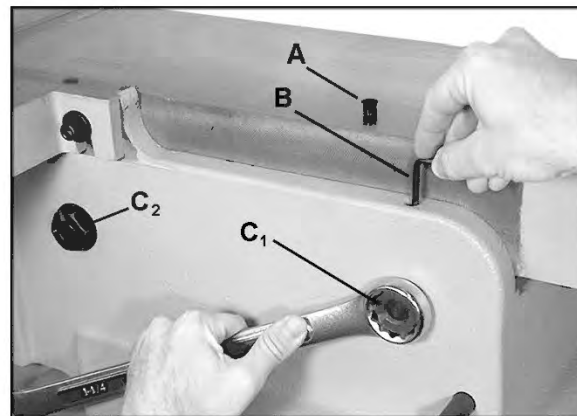

Figure 22
9. Each table has four cam adjustment devices, two in front and two in back. (C, Figure 22 shows one of these).
11. At the area of the table where the adjustment must be made, pry out the cap (A, Figure 22) from the hole.
12. There are two set screws in the hole. Insert a 4mm hex wrench (B, Figure 22) into the hole and loosen the upper set screw by turning the hex wrench counterclockwise. Remove the upper set screw from the hole.
14. Turn the hex nut (C₁, Figure 22) with a 1-1/4" wrench. **This adjustment is sensitive and should be made in small increments.**
NOTE: The rotation is different for left and right hex nuts; the right hex nut (C₁) being turned in Figure 22 will be turned clockwise to raise that area of the table, or counterclockwise to lower that area of the table. The left hex nut (C₂) shown in Figure 22 would be rotated in the opposite manner.
16. When the adjustment is satisfactory, with the tables now coplanar, tighten the lower set screw with the hex wrench (B, Figure 22).
18. Re-insert the cap (A, Figure 22) to keep dust and debris out of the hole.